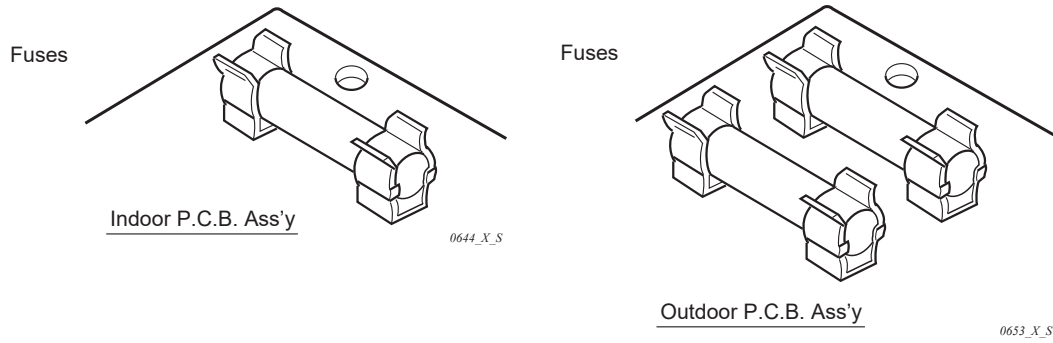

Fig. 46
⑩ Fuse on indoor and outdoor P.C.B. Ass'y Both in indoor and outdoor unit
- Remove the P.C.B. Ass'y from the electrical component box. Then pull out the fuse from the P.C.B. Ass'y. (Fig. 46)